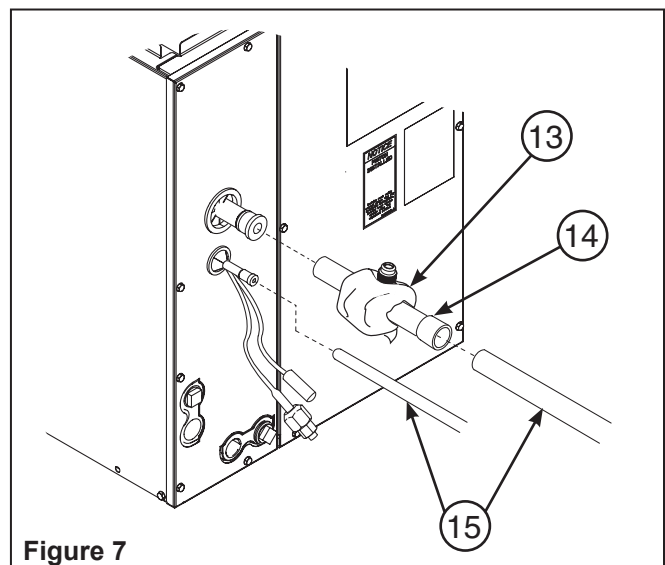

Figure 7
13. Before brazing, pull bulb and equalizer lines away from refrigerant lines and wrap them with a wet rag to avoid damaging the TXV during brazing (Figure 7). Wrap the equalizer port on the vapor line adaptor with wet rag to avoid damaging the braze joint.
14. Braze the vapor line adaptor provided onto the coil vapor line (Figure 7).
15. Braze the field lines to the coil liquid line and vapor line adaptor (Figure 7).